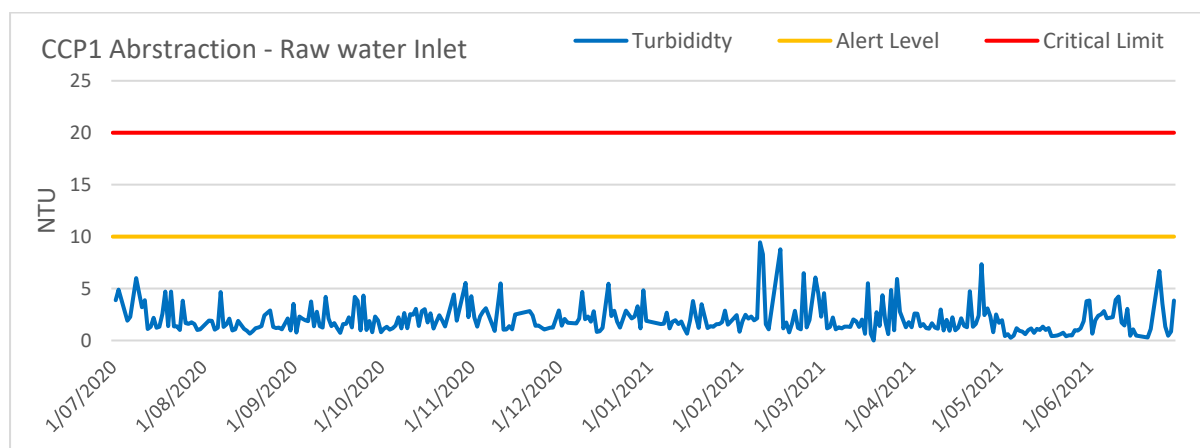

Figure 4.3.4a - CCP 1 Abstraction – Turbidity at Raw water inlet
Monitoring data for each of the South West Rocks supply system CCPs is shown in Figures 4.3.4a, 4.3.4b, 4.3.4c, 4.3.4d and 4.3.4e.
No Critical Limit or Alert Level exceptions occurred in the South West Rocks supply during the 2020 – 2021 reporting year (Table 4.1 and Figures 4.3.4a, 4.3.4b, 4.3.4c, 4.3.4d and 4.3.4e). This supply has not recorded any exceptions for the past two (2) reporting years.